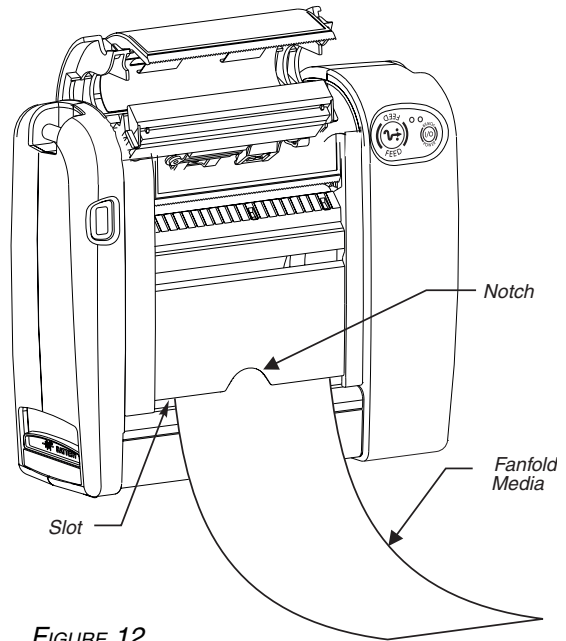

FIGURE 12
9. Swing up the media access door. Thread the fanfold media through the slot beneath the notch on the media access door (refer to Figure 12).